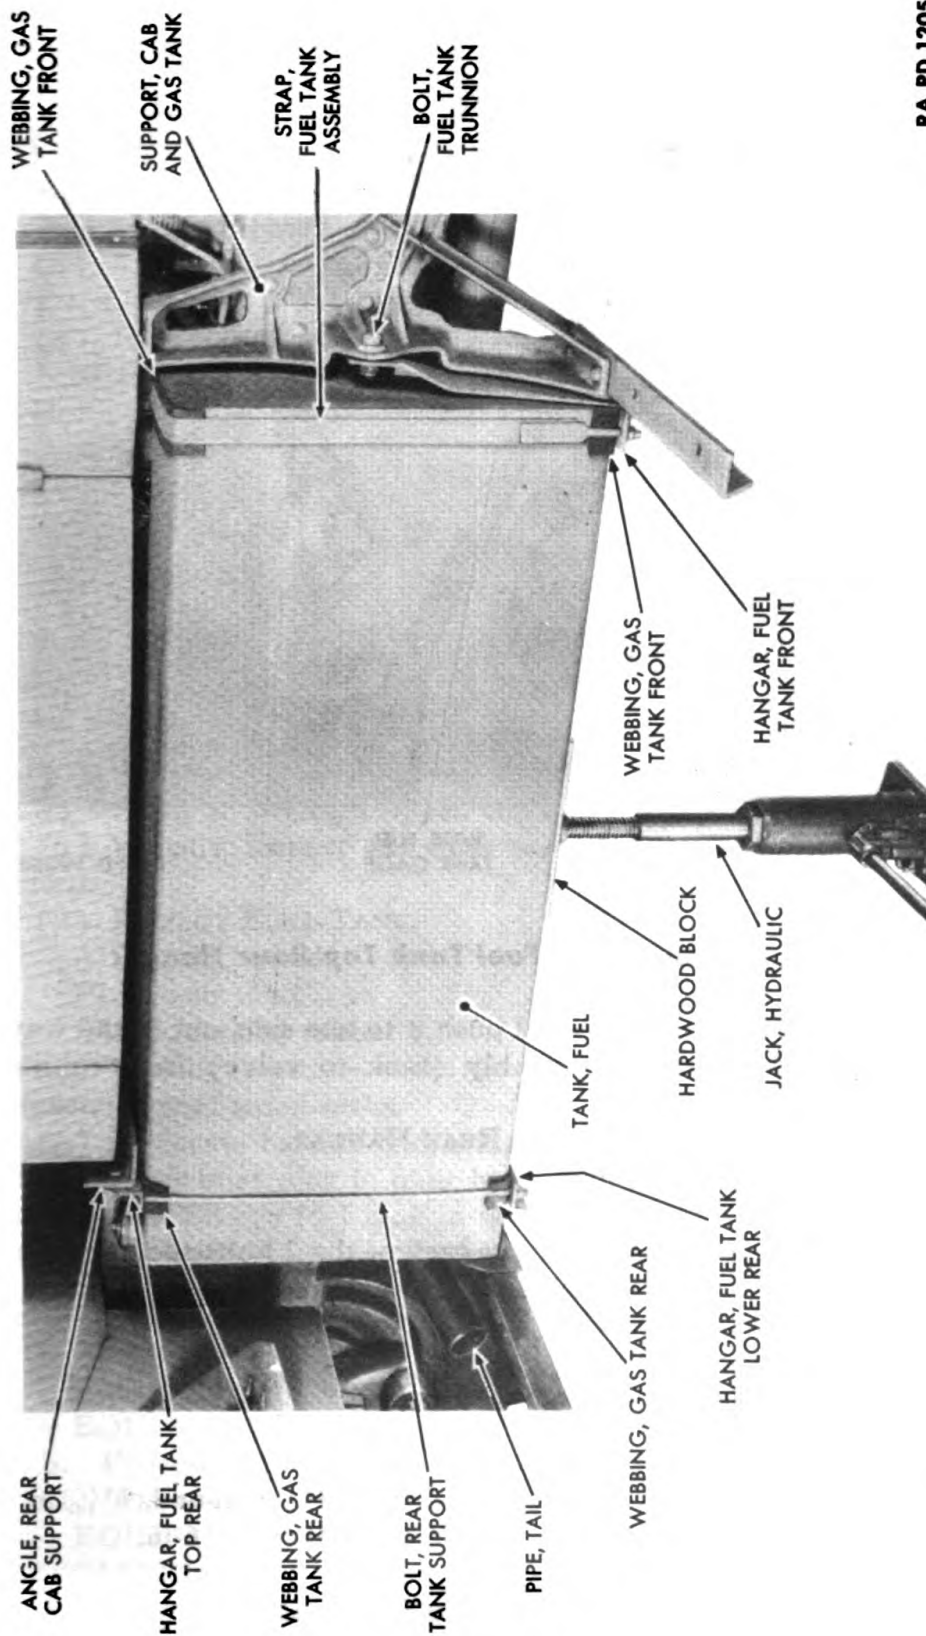

Figure 150 — Supporting Fuel Tank
(1) **GENERAL.** The 2 fuel tanks are mounted in exactly the same manner. While the right-hand tank is illustrated, steps apply to either tank (fig. 150).
Drain gasoline by removing squarehead pipe plug at rear of fuel tank. Place a hardwood block on the head of a jack. Raise jack until it just supports tank (fig. 150).
Remove palnut and nut from fuel tank trunnion bolt. Remove bolt by pulling it forward (fig. 150).
to the fuel tank front hangar (fig. 150). Lift off fuel tank assembly strap, fuel tank front hangar and webbing. Remove the 2 palnuts and nuts from the 2 rear tank support bolts and lift off bolts, rear hangars and webbing (fig. 150).
Place fuel tank top rear hangar in position on fuel tank. Slide fuel tank lower rear hangar into position beneath tank (fig. 150). Pad each by inserting gas tank webbing between hangars and fuel tank. Slide the 2 rear tank support bolts into place through hangars. Install nuts and palnuts on rear tank support bolts (fig. 150).
in fuel tank front hangar. Install nuts and palnuts on threaded ends of strap (fig. 150).